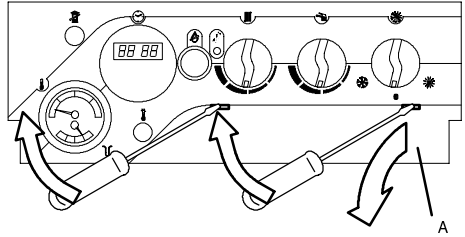

fig. 5.2
- 8 Insert a small flat-bladed screwdriver into the two slots indicated in fig. 5.2. Lever upwards **gently** with the screwdriver so as to unfasten panel "A" by rotating it downwards.